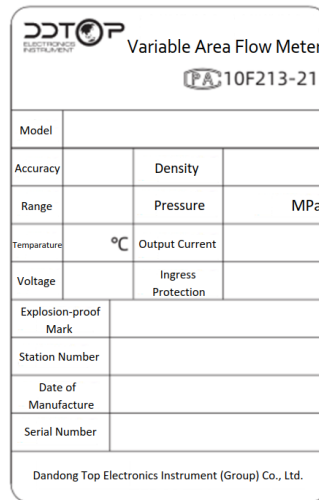

Figure 4 Product Name Plate
5.1.1 Check whether the Product Name Plate (Figure 4) is consistent with the information in the supply list.